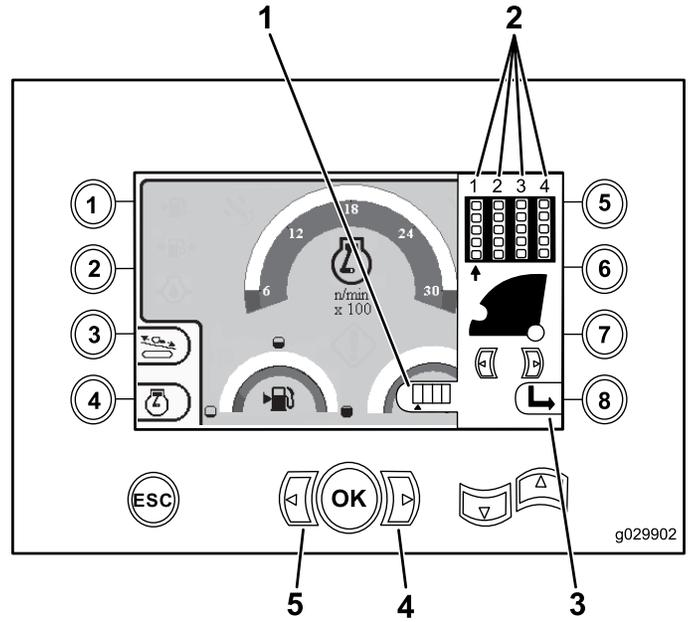

Figure 7
1. Push the right or left arrow to select the row number to the row you want to access (Figure 7).
2. After placing the arrow beneath the row number you want to access, push the 8 button (Figure 7) to hide the side window.